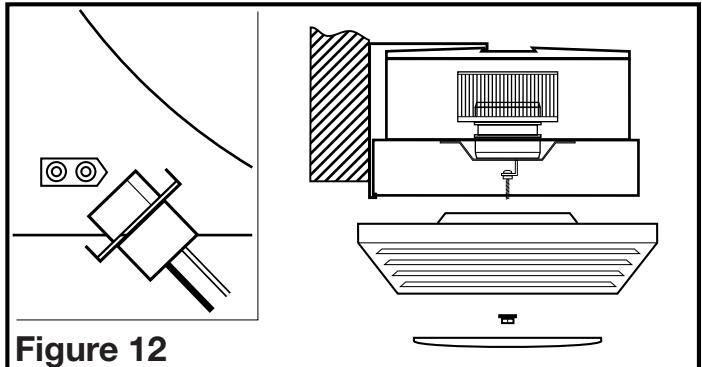

Figure 12
- After the reflector bolt is secure, raise the grill/reflector up into position and plug the reflector into the appropriate receptacle. Secure the assembly to the reflector bolt using the acorn nut and lock washer. Install the included LED lamp into the lamp holder by lining up the pins on the lamp base to the socket of the lamp holder and turning the lamp body clockwise until the lamp snaps into place and is firmly seated in the lamp holder (Figure 12).